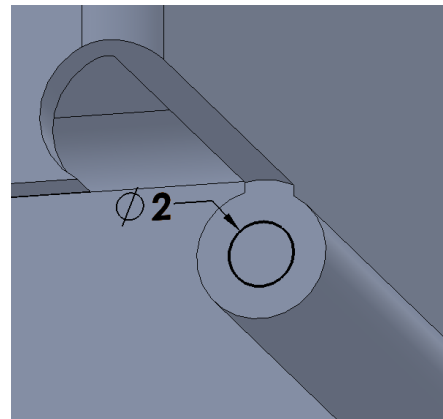

Fig. 22
Step 4. Click **Smart Dimension**  (S) on the Sketch toolbar.
Step 5. Dimension **diameter 2**, **Fig. 22**.